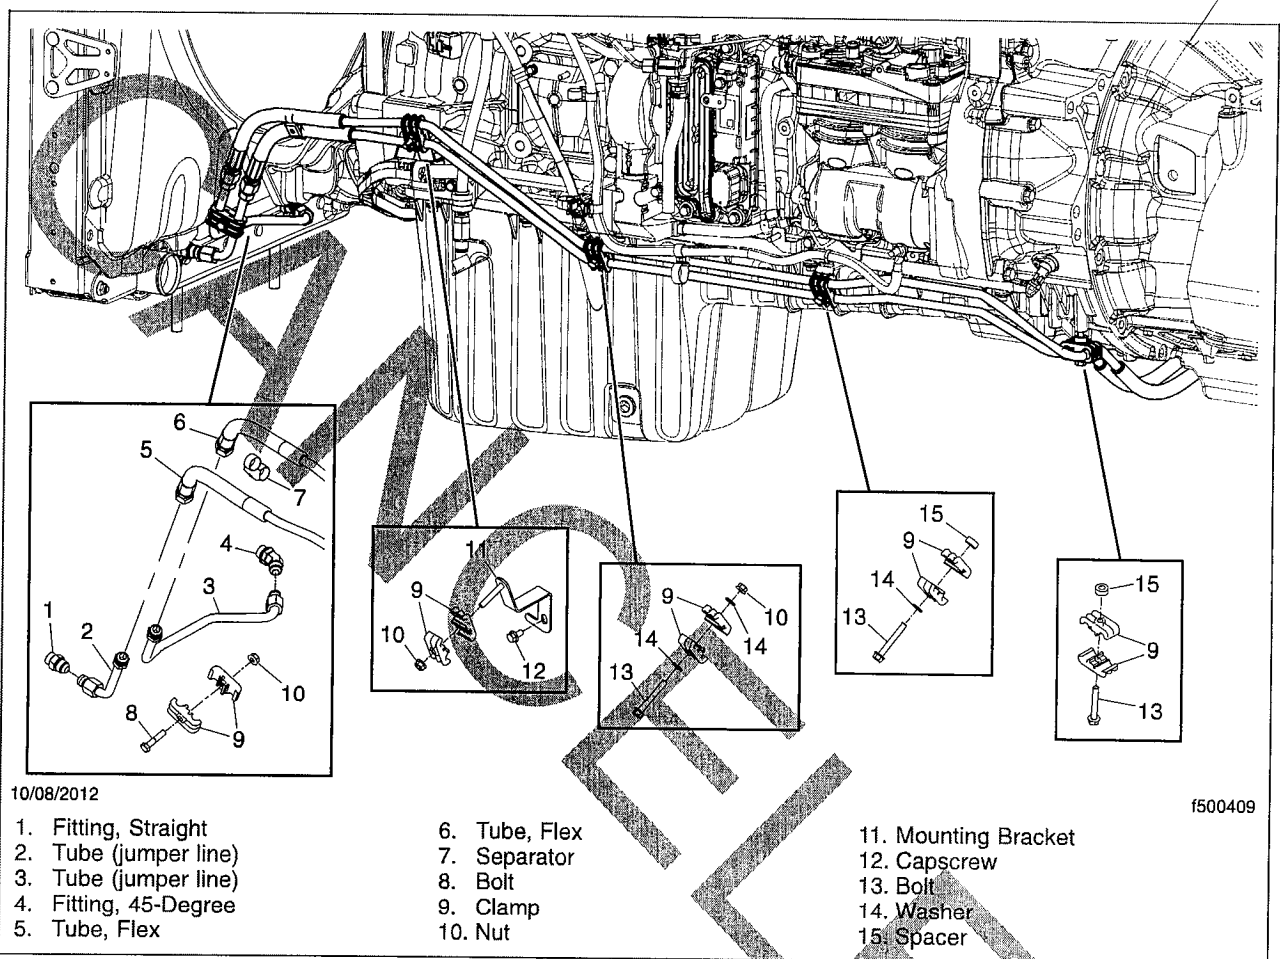
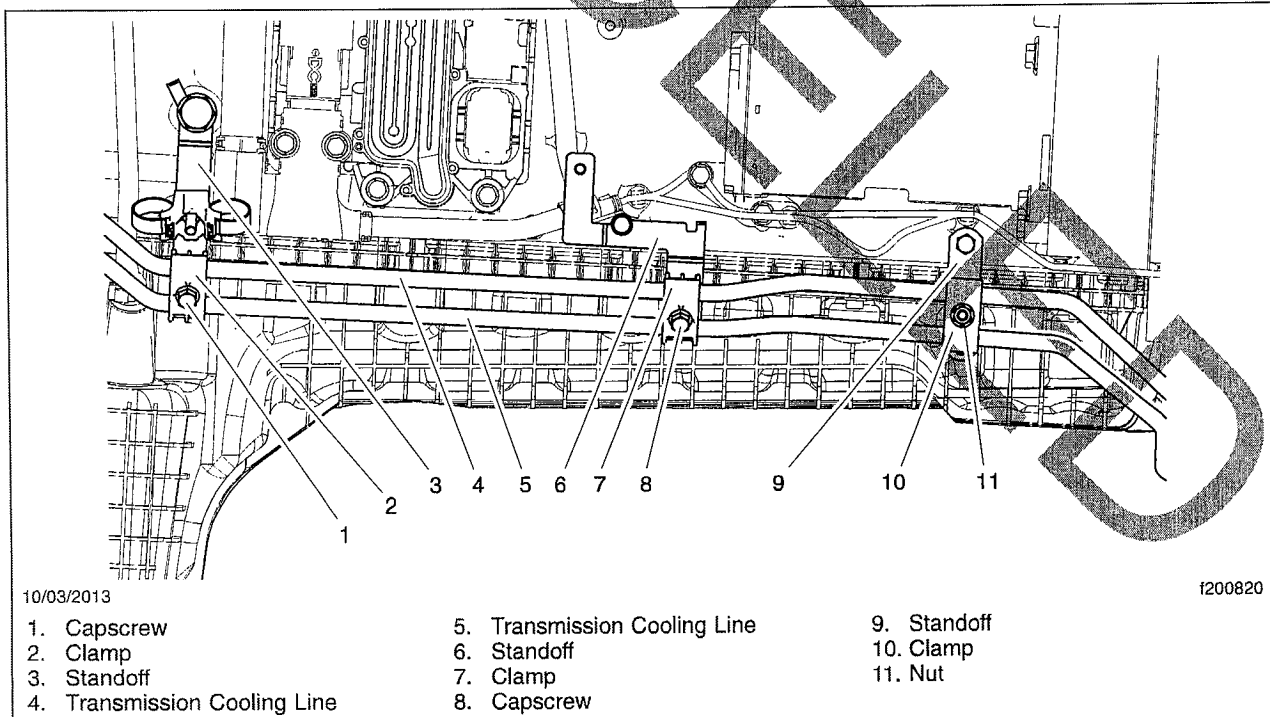
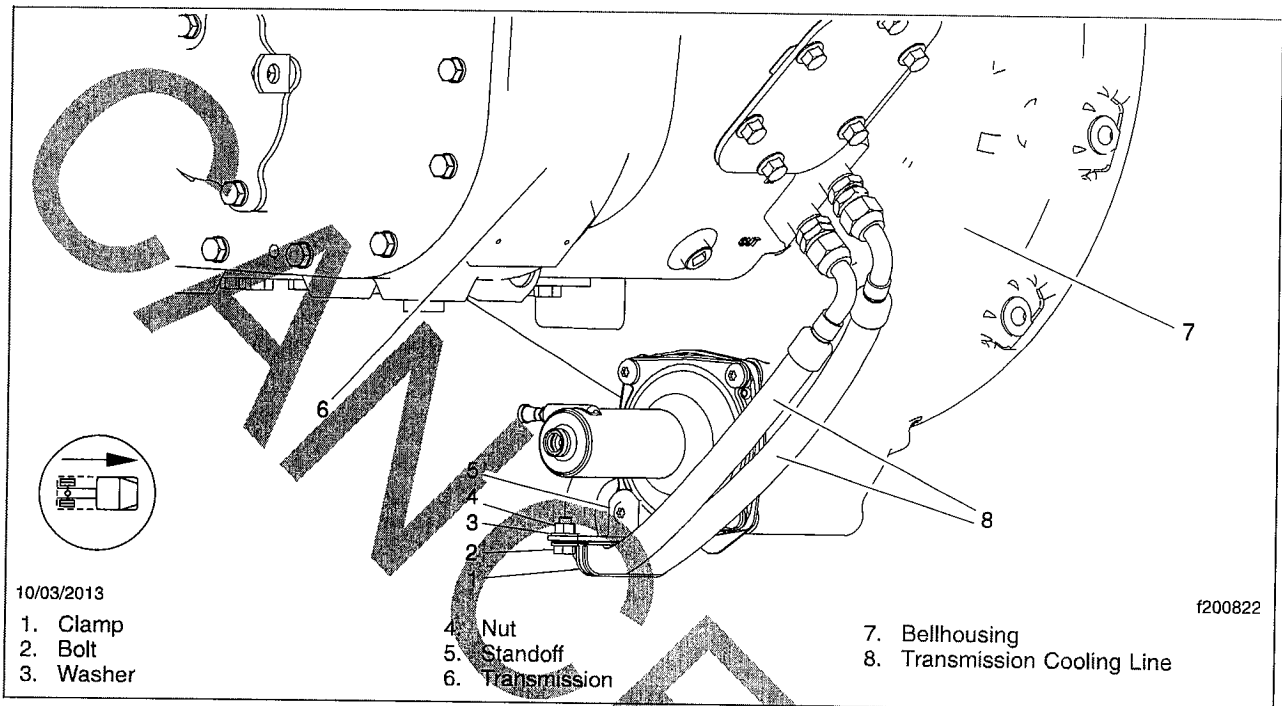

Fig. 5, Transmission Cooler Line Installation (typical)
Fig. 7, Transmission Cooler Line Bracket Installation
Fig. 8, Transmission Cooler Line and Bracket Installation
19. Remove the transmission cooler lines and discard them. Cap or plug the fittings at the transmission and on the lines to prevent spills. See **Fig. 5**.
See **Fig. 5**, **Fig. 7**, **Fig. 8**, and **Fig. 9** for transmission cooler line and bracket installation. For vehicle-specific plumbing diagrams refer to EZWiring in PartsPro.